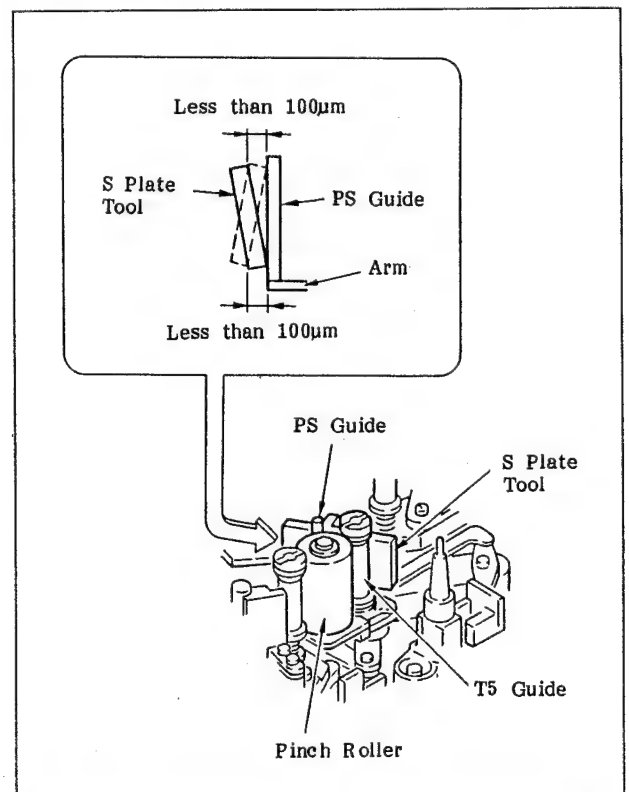

Fig. 6-115 Adjustment of the Tilting of the PS Guide
3. Place the S plate tool against the T5 guide, as shown in Figure 6-115, and make sure that any gap, which may occur at the top or bottom between the guide and the tool, is less than 100 μ m. If it is not, adjust it by pushing the top edge of the PS guide to bend the arm section.